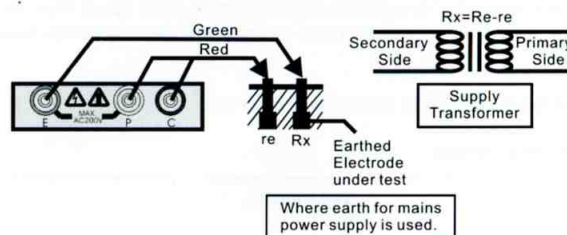

Fig.2
- This method is recommended where an earth resistance higher than 10Ω is measured or where it is not possible to drive auxiliary earth spikes. An approximate value of earth resistance can be obtained by the two wire system where is shown in fig.2.